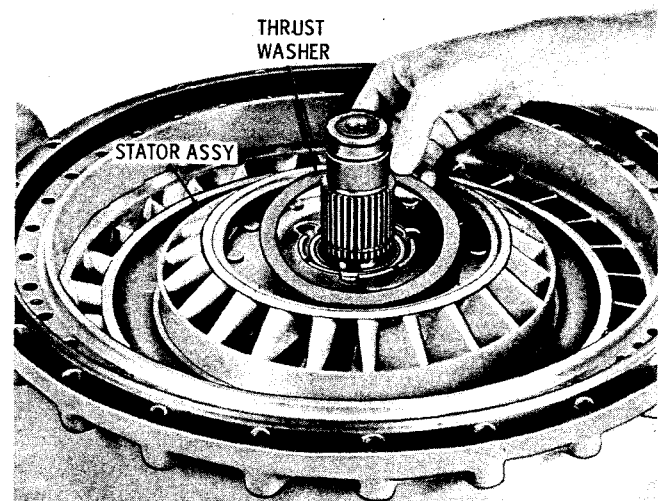

Fig. 5-25. Removing thrust washer from single-stator assembly (fixed-capacity converter)
(5) Later models include two types of 3-element converters (fixed capacity and variable capacity). Each of these types include only one stator. To remove the stator in a fixed capacity 3-element converter, first remove the thrust washer from the stator (fig. 5-25). Remove the single-stator assembly, with its springs, rollers, cups and pins (needle rollers) (fig. 5-25). Refer to paragraph 6-15c and d for rebuild of the stator assembly.